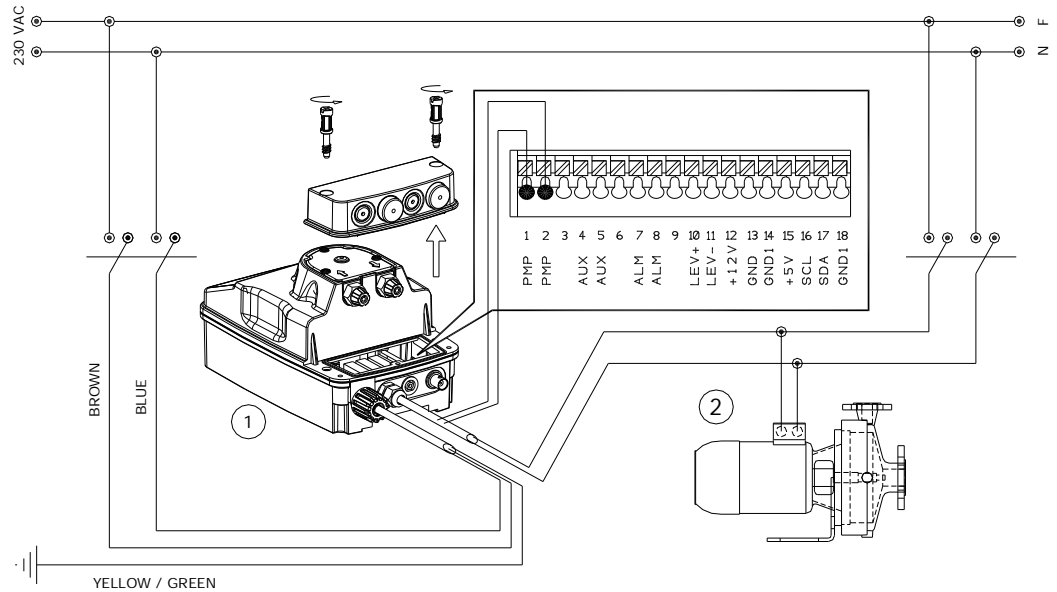
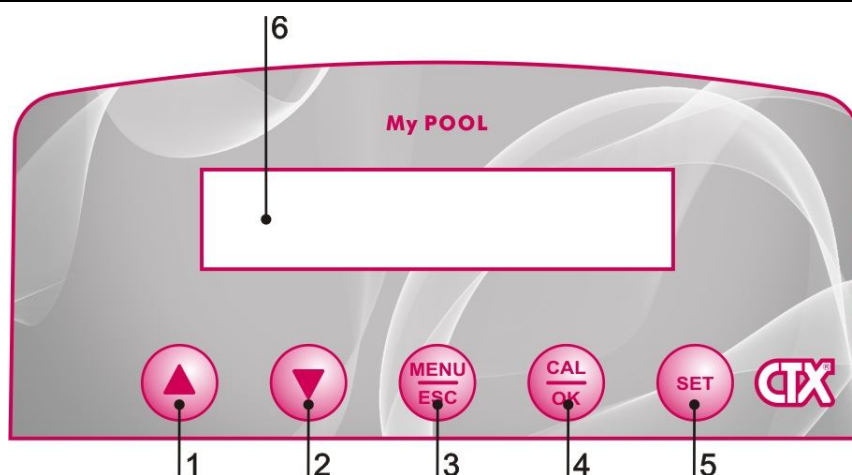
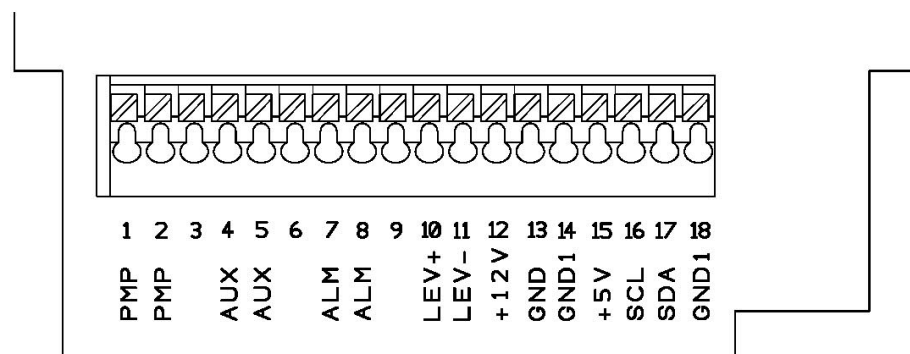

Fig. 2 - Installation and terminals
Fig. 4 – Pannello Comandi
Fig. 5 – Service Connector
Carefully observe the regulations in force in the various countries as regards electrical installations (Fig.2). **When the supply cable is devoid of a plug, the equipment should be connected to the supply mains by means of a single-pole circuit breaker having a minimum distance of 3 mm between the contacts. Before accessing any of the electrical parts, make sure that all the supply circuits are open.**
Slide the hoses over the nipples, pushing them right home and then fix them with appropriate tube nuts (Fig.4). Before attaching the delivery hose to the plant, prime the peristaltic by going through the sequence shown in fig.5. Try to keep both the suction and discharge hose as straight as possible, avoiding all unnecessary bends. Select the most appropriate injection point on a pipe of the plant to be treated and there fit a 3/8" female steel gas thread connector (similar to BSPm). This connector is not supplied with the pump. Screw the injection valve to the gas connector, inserting a gasket tape as Teflon. Then connect the discharge hose to the conical connector on the injection valve and fix it with the supplied tube nut. The injection valve also acts as no return valve by means of a cylinder sleeve.
Press in the same time arrow up (1) and arrow down (2), (fig. 4).
With the pump in stand-by at the same time press MENU/ESC (3) and CAL/OK (4) (FIG.4).
In figure 5 is shown the scheme of the service connector for the connection of the various services. To the service connector is accessed by removing the protective cover as shown in fig. 2.
- **Connectors 1-2 (PMP)**= Connection for the recirculation pump. Input at 230V. (Fig.2).